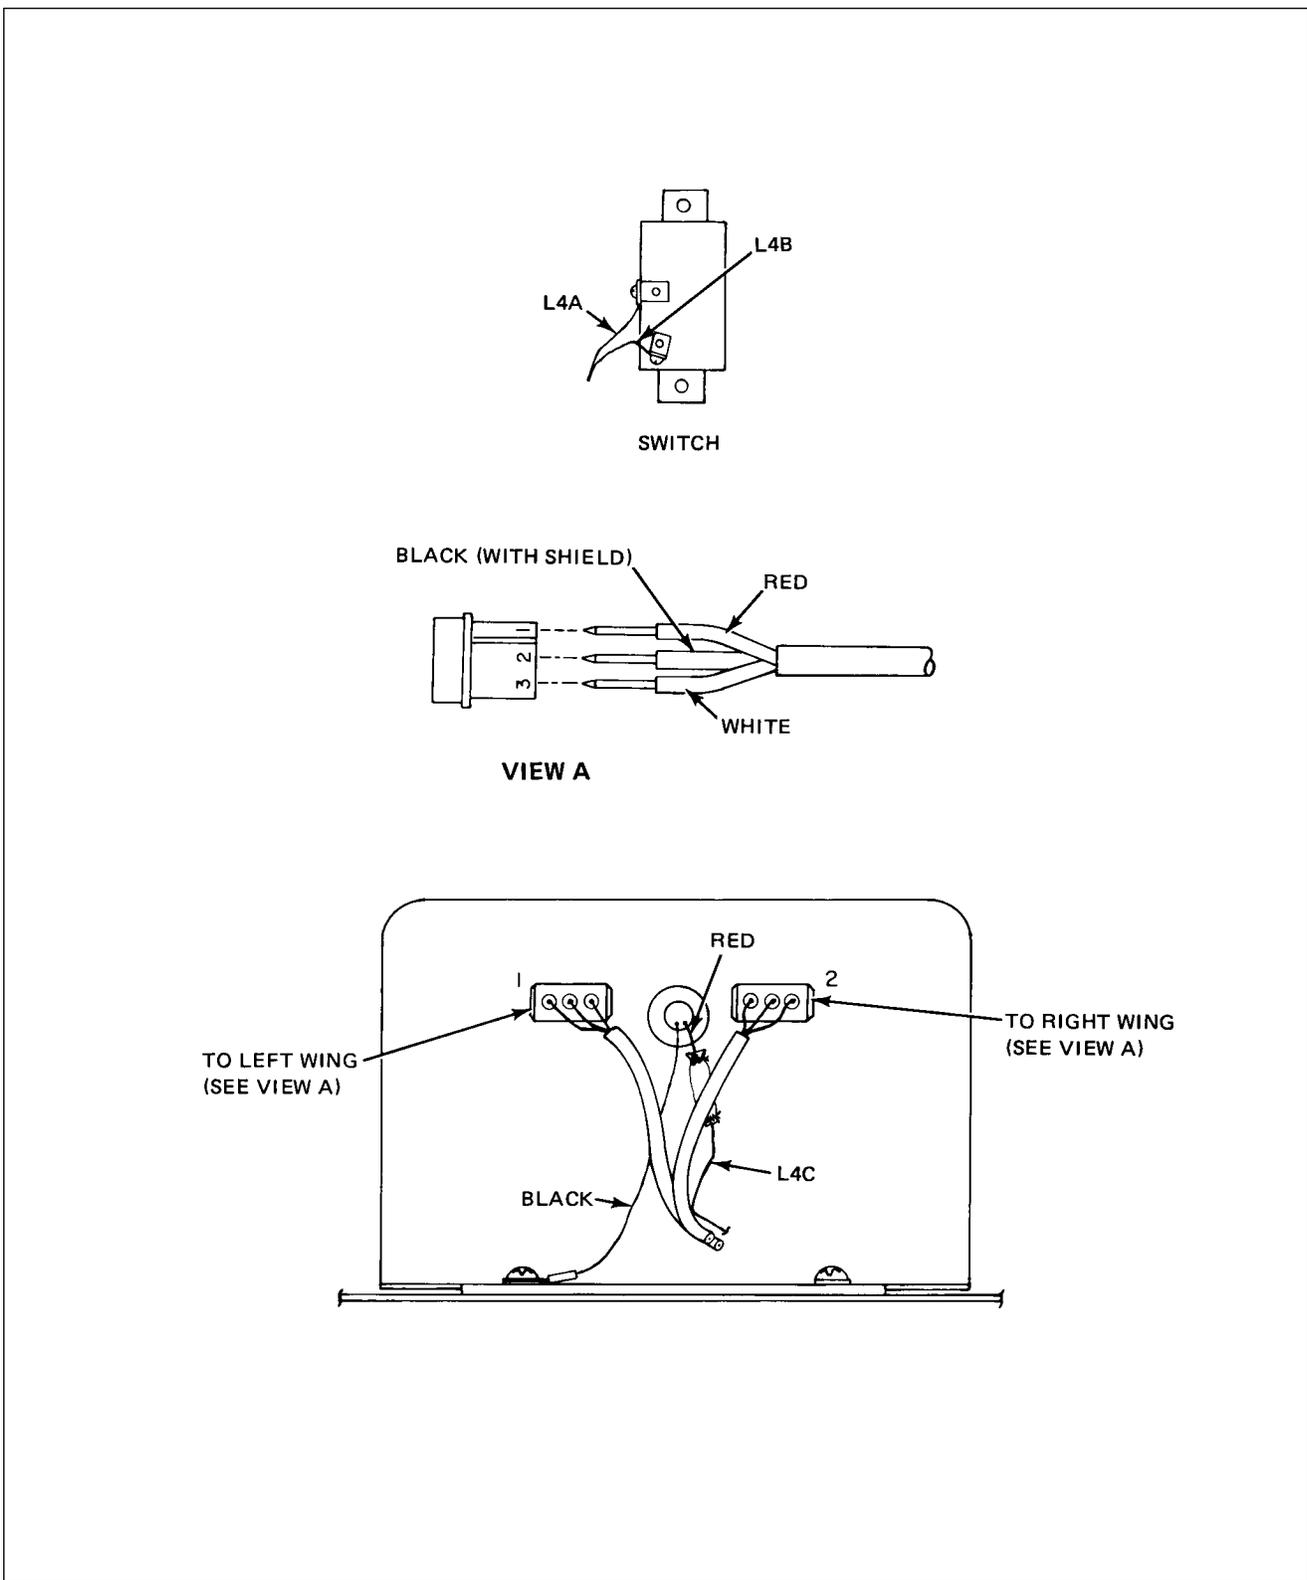

Figure 33-2. Strobe Light Connections
**INSTALLATION OF STROBE POWER SUPPLY.** (Refer to Figure 33-2.)